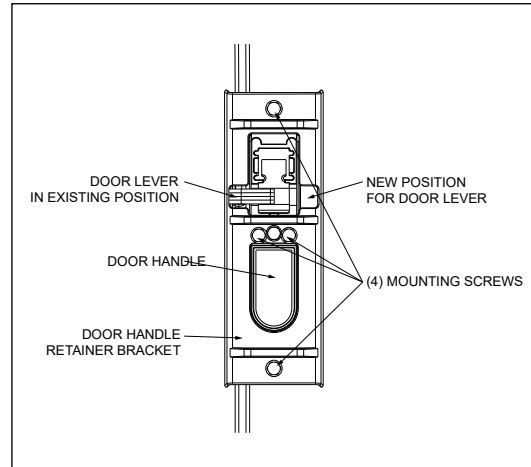

Figure 17c Door Handle Detail
- c. Loosen the four mounting screws on the door handle (Figure 17c), but do not remove.
- e. Once all door latches and the rod have been removed, remove the door handle screws. Separate the door handle retainer bracket from the door handle and set aside (Figure 17c). Remove the door handle from the door.
- f. Slide the door lever out of its slot, rotate it 180°, and re-insert it on the other side of the handle assembly (Figure 17c). Pushing the door handle all the way closed helps to disengage the lever.
- k. Install Keps nuts on all latches and tighten to 26 in-lbs (Figure 17c).